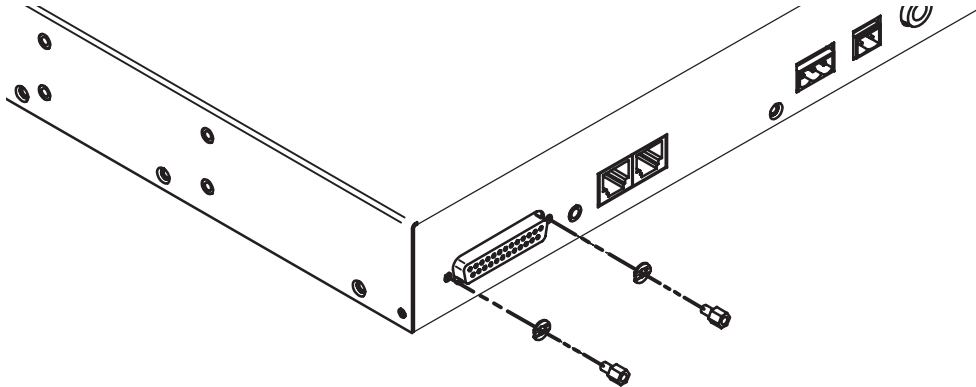

Figure 2. Removing the RS-232 Nuts
2. Remove the nuts on either side of the RS-232 connector (on the rear panel of the unit) using the 3/16" nut driver (see Figure 2).